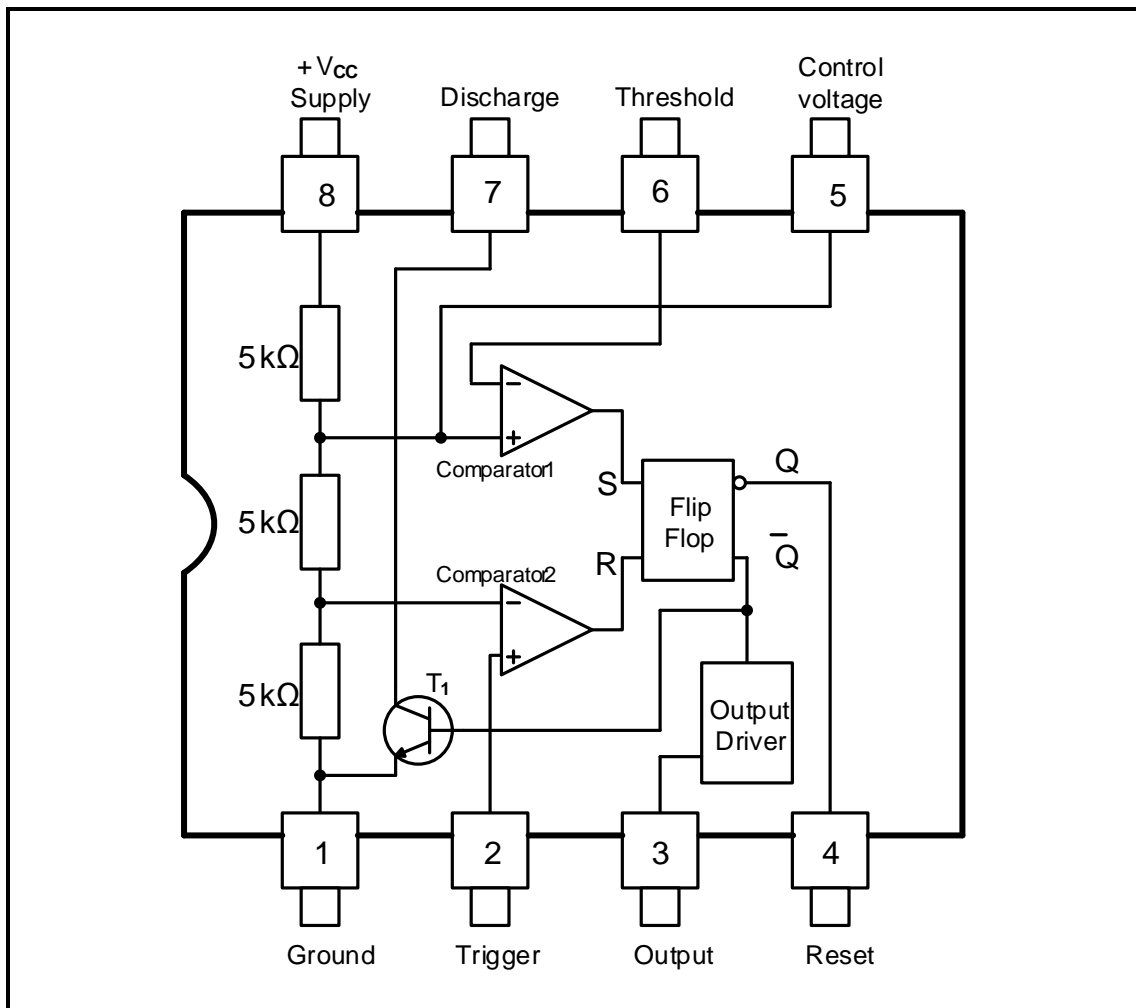

FIGURE 3.3: 555 IC
3.3 FIGURE 3.3 below shows the internal circuit diagram of a 555 IC. Answer the questions that follow.
- 3.3.4 Explain the function of the two comparators in FIGURE 3.3. (4)
- 3.3.5 Explain the function of the flip-flop in FIGURE 3.3. (3)